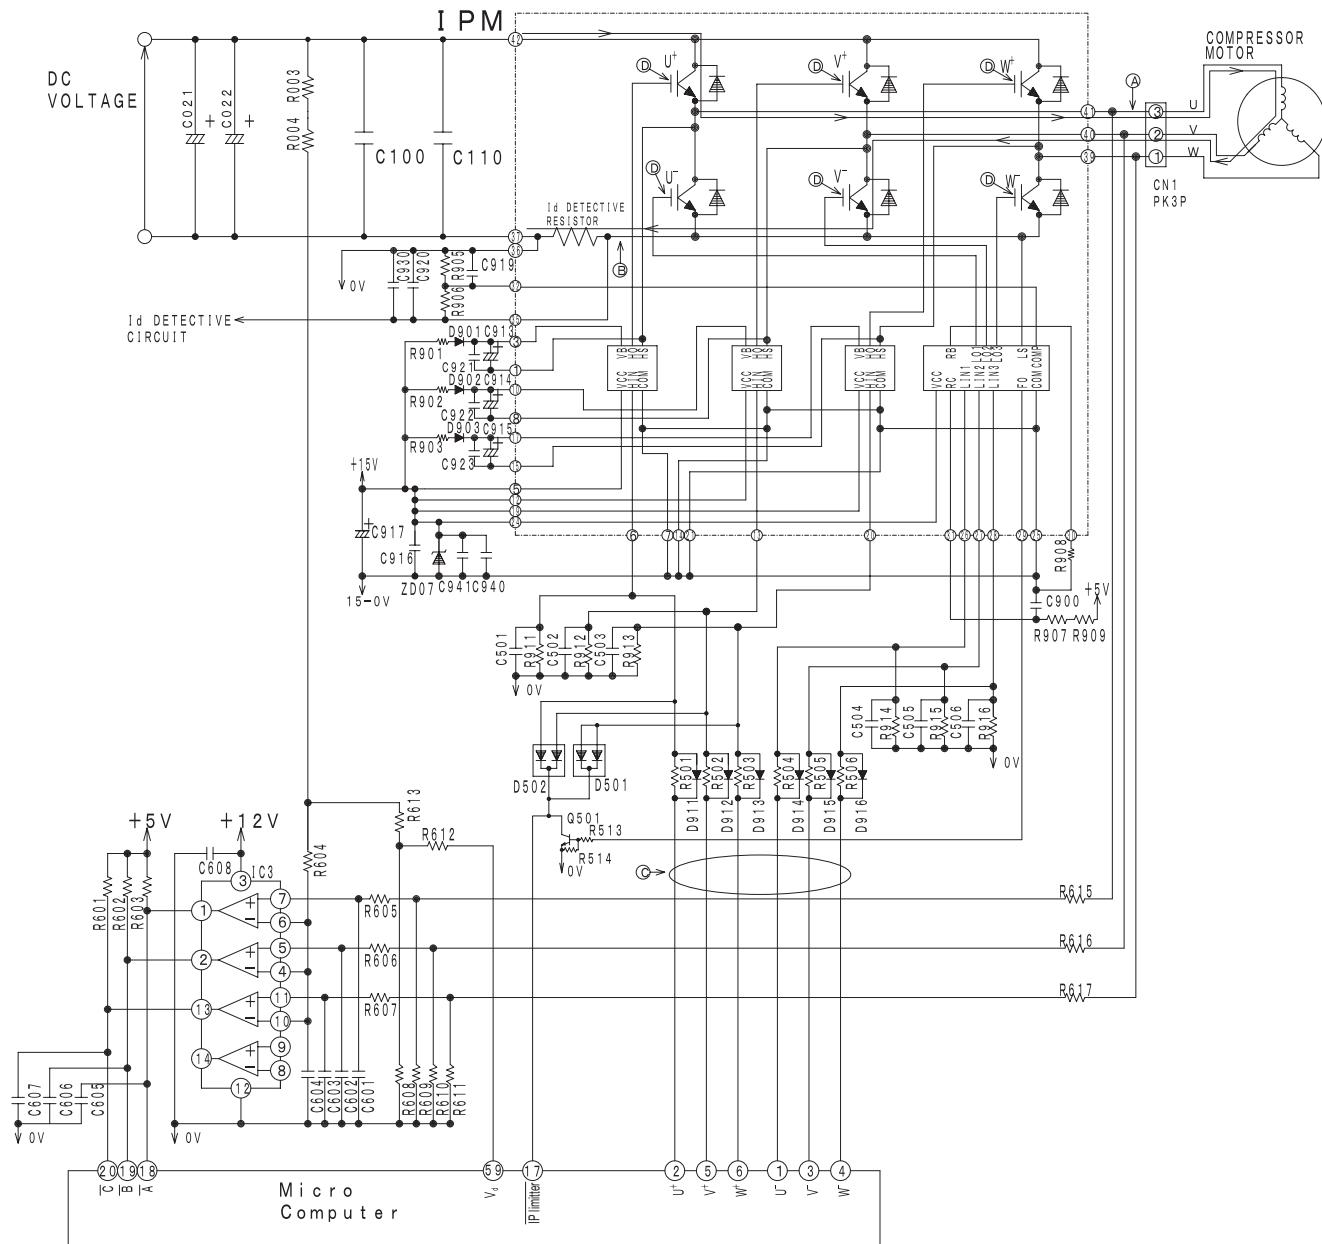
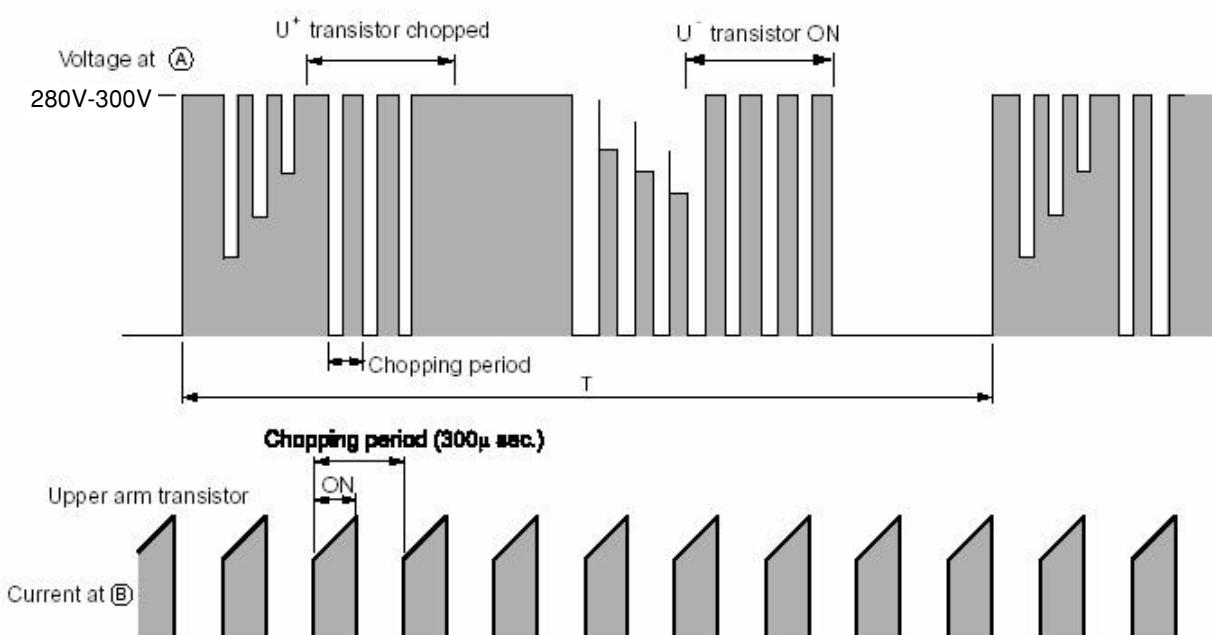

Fig. 4-1 Intelligent power module circuit (U^+ is ON, V is ON)
Fig. 4-3 Voltage waveform at each point
- Fig.4-1 shows the intelligent power module and its peripheral circuit. The three transistors on the positive e side are called the upper arm, and the three transistors on the negative d side, the lower arm.
At point ⑤: U+ is ON, V is ON (circuit in Fig. 4-1)
Fig. 4-3 shows voltage waveform at each point shown in Figs. 4-1 and 4-4. First half of upper arm is chopper, second half is ON, and first half of lower arm is chopper, second half is ON.
- (1) When U^+ transistor is ON: U^+ transistor → U coil → V coil → V^- transistor → DC current detection resistor → Point ② (Fig. 4-1)
Since current flows at point (B) only when U^+ transistor is ON, the current waveform at point (B) becomes intermittent waveform as shown in Fig. 4-3. Since current at point (B) is approximately proportional to the input current of the air conditioner, input current is controlled by using DC current (I_d) detection resistor.